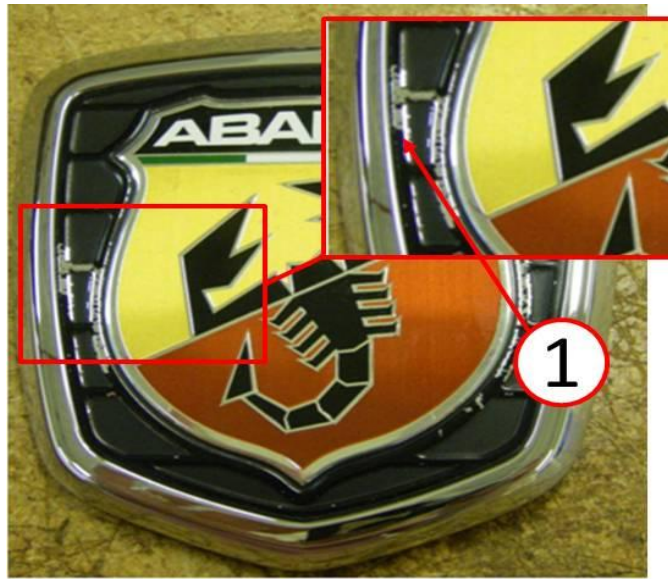

Fig. 1 Abarth Liftgate Emblem
1. Inspect the abarth liftgate emblem as shown in (Fig. 1). Was the paint delaminating and/or peeling?